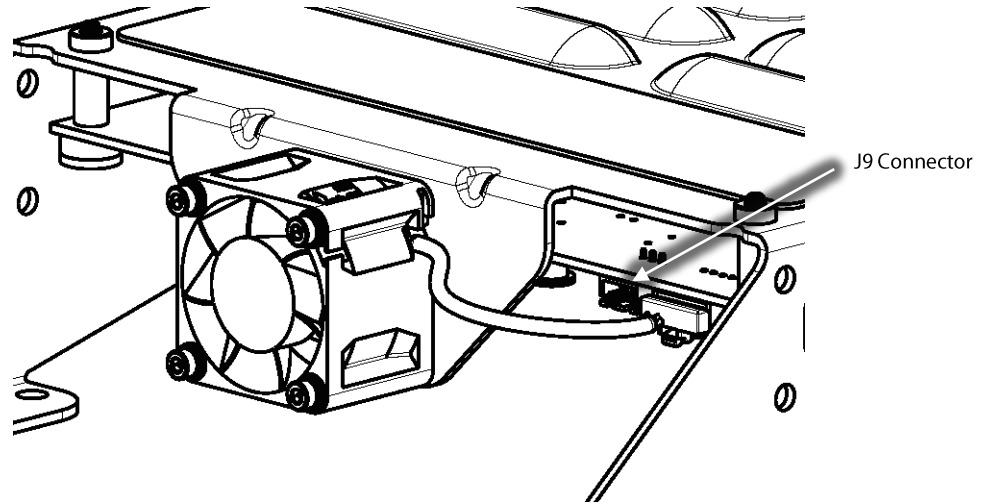

Figure 1 – Soft Start J9 Connector
5. Remove the Top Cover by releasing the nine (9) screws that secure the cover, taking particular care not to touch ANY components underneath.
6. Using an appropriately rated volt meter, check the DC bus bars for voltage level. If the voltage is above 5VDC, wait five (5) minutes and recheck until 5VDC or below is achieved.
7. Remove the Capacitor Cover by releasing the six (6) screws that secure the cover.
8. For F Series and later compressors, remove the Soft Start Temperature Harness. Refer to Figure 1 (Soft Start J9 Connector).